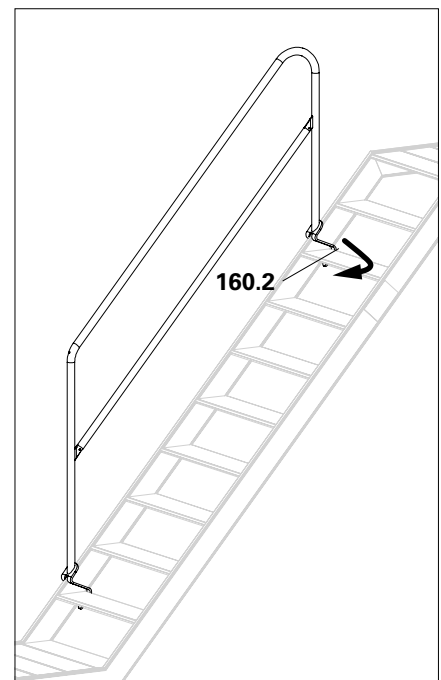

Fig. A8.10b
2. Lower the stair guardrail to the step and pull the mounting rings to the rear edges of the steps (**79.2**). (Fig. A8.10b)